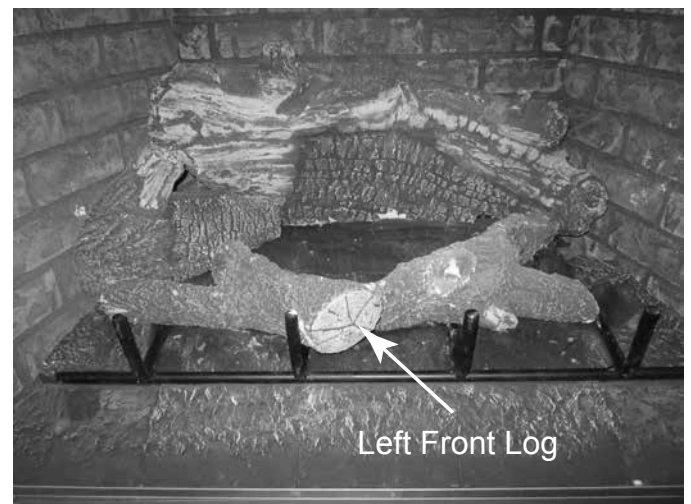

Figure 11.13
- Place left front log on pin of burner top. Right end of log should fit over the left end of right front log. See Figure 11.13.